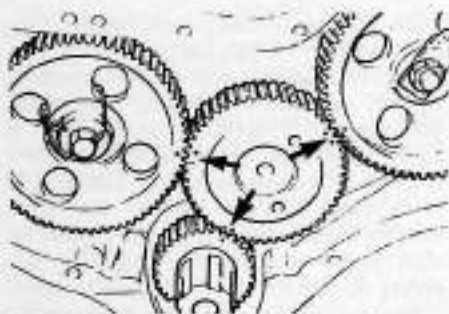

Fig. 64—View showing timing gears in proper meshed positions on six cylinder engines.
All timing marks on installed gears should be pointing toward idler gear position, install idler gear making sure single punch marks on all installed gears mesh between double marks on teeth of idler gear. See Fig. 64. Install retaining plate (9—Fig. 66) and shims (10) which